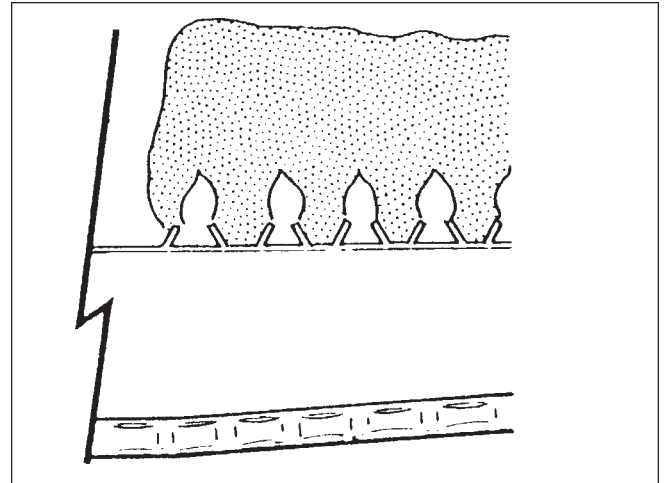

Figure 21. Main Burner Flame.
- b. 1 to 4 inches (25mm to 102mm) above burner surface (see Figure 21).